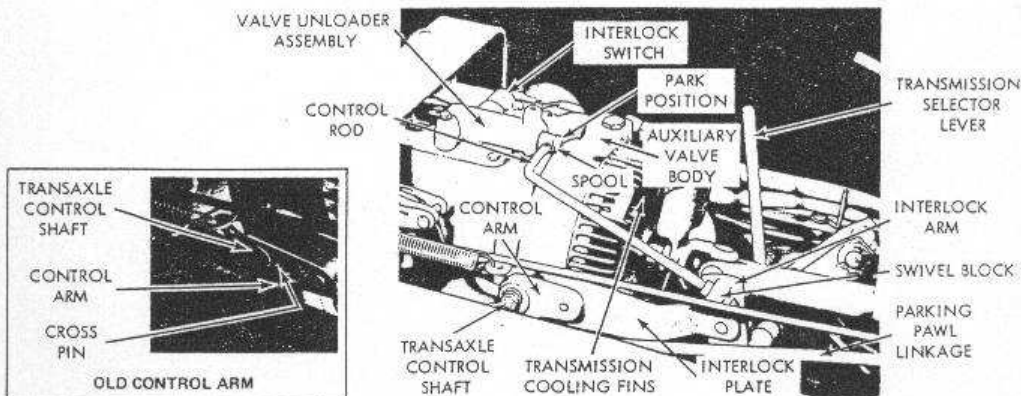

Figure 3
15. Remove hex nut, lockwasher and washer holding control-arm to control shaft, Figure 3. With a small gear puller remove control arm from shaft. Remove control arm interlock plate.
If hydrostatic is the older model, the control-arm is held on with a drive cross pin. (See insert Figure 3.)